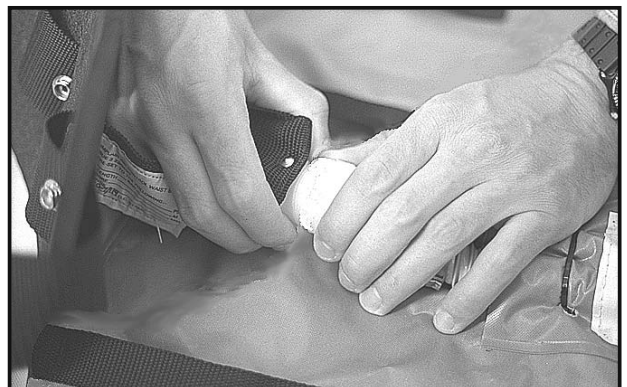

Fig. 10.
6. Locate the breathing air tube assembly over the bulkhead and tighten the retaining ring (Fig. 10.).